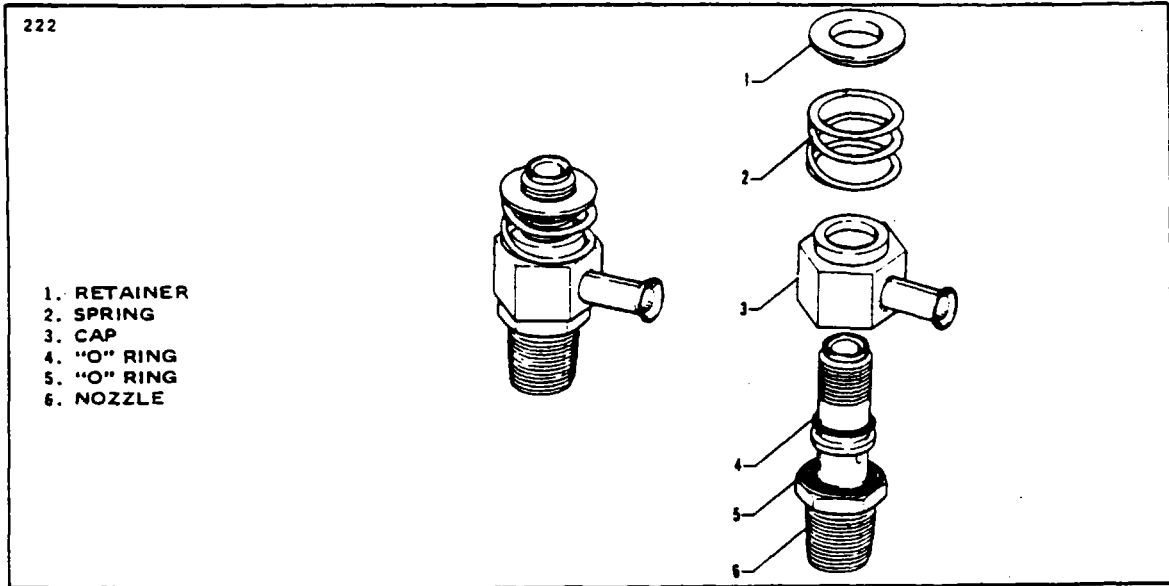

Figure 8A-8. Fuel-Air Bleed Nozzle
- c. Ascertain that the "O" rings are properly installed on the nozzle stem and install the nozzle shroud. (Refer to Figure 8A-8.)